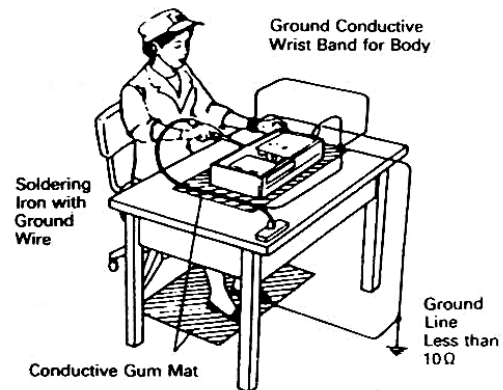

Fig. 5
1. Remove the CD mechanism assembly by referring to the "EXPLODED VIEW II" on page 24 (See Fig. 5).